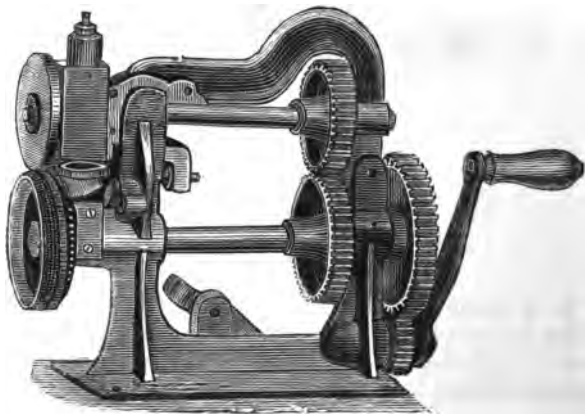

Fig. 79.—CHANNEL CUTTING MACHINE.
**Channel Cutting Machine.**—This machine (Fig. 79) is employed for cutting the groove in which the stitches are